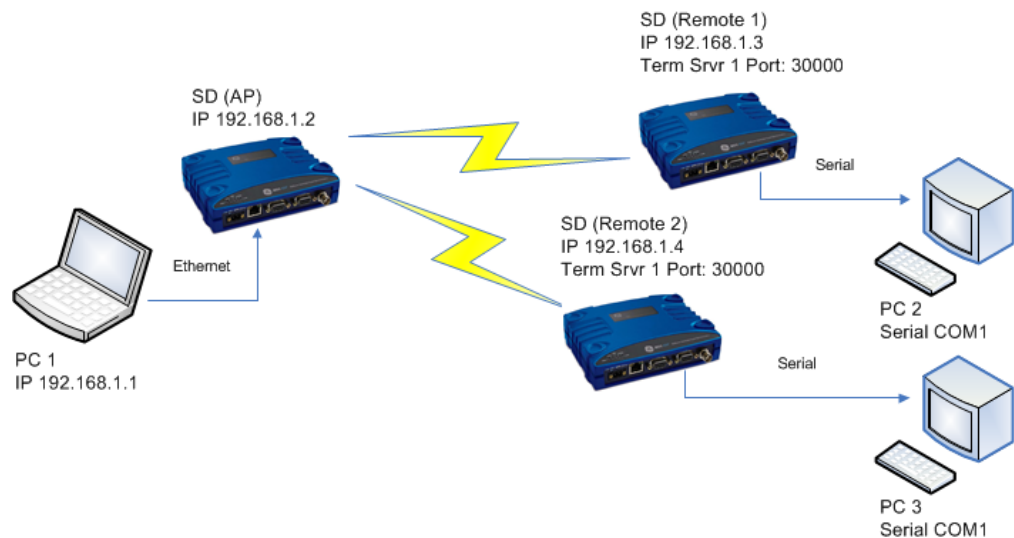

Figure 28. Terminal Server Example
The following describes a Terminal Server implementation in a radio network. Figure 28 below is referenced in this discussion.
- Radio (RF) link is good between AP and Remote 1, and AP and Remote 2.
- IP addresses are properly configured as shown in Figure 28.
1. Configure Remote 1 and Remote 2 by navigating to the **Term Srvr 2 COM2 Configuration** screen and setting the parameters as listed below. (Note that an Ethernet connection to Remote 1 and Remote 2—not shown in Figure 28— will be required for this step, unless Telnet is used.)